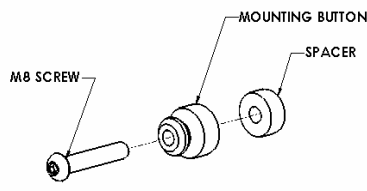
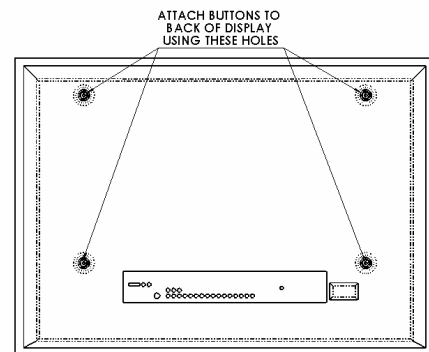

Figure 3
Figure 4
2. Attach the mounting buttons to the display using M8 screws and spacers provided (see Figure 3 & Figure 4).